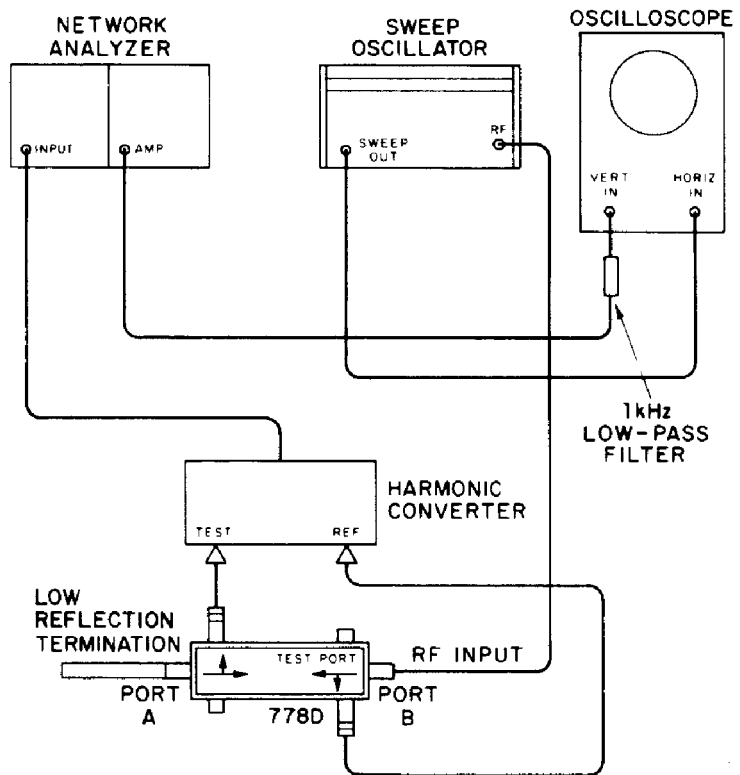

Figure 6 Typical Coupling Variation with Frequency
1. See Figure 6 on page 8 for a typical coupling curve.